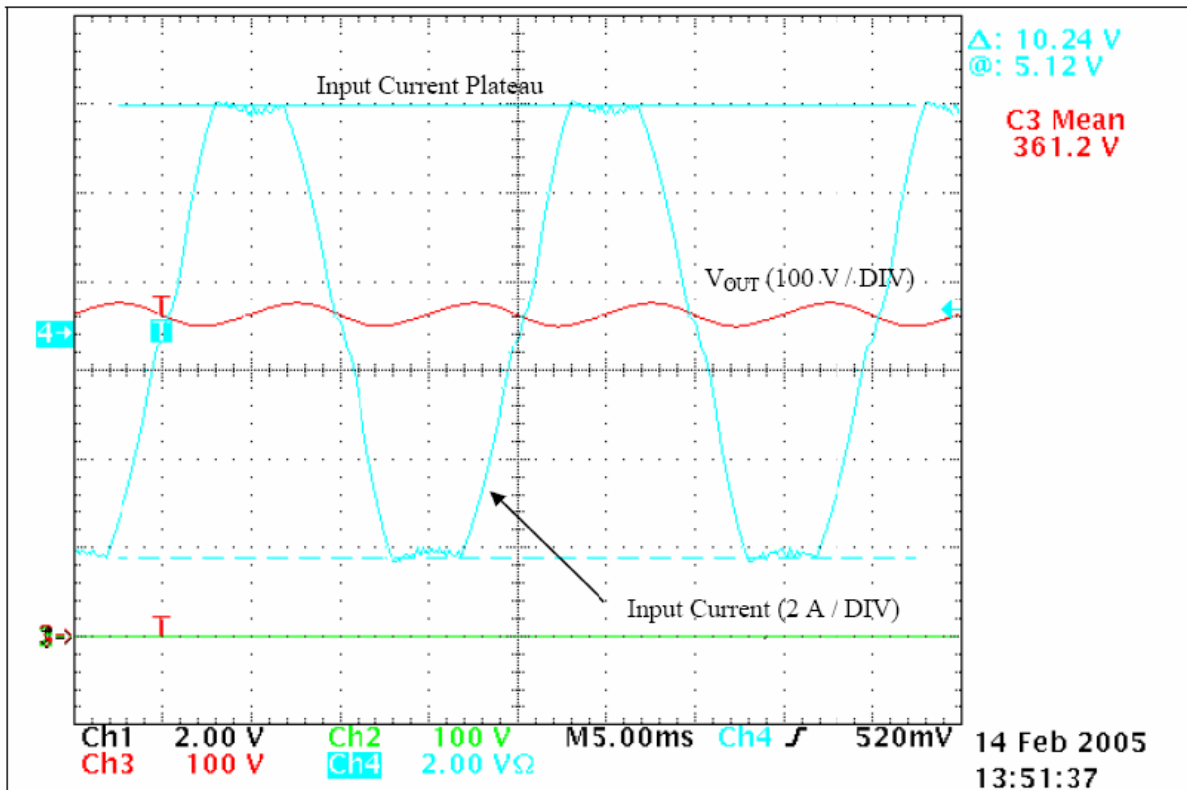

Figure 14. Over-Current Limitation (Measured @ $V_{AC} = 75 V$)
7. Gradually decrease the power source input voltage until the input current top becomes flat. Measure the plateau (see Figure 14). It must be between 4.9 and 5.3 A (over-current limitation). This test must be very short to avoid any excessive heating of the board. Immediately stop the test if the input current exceeds 5.3 A, or if the input voltage is below 75 V_{RMS}.